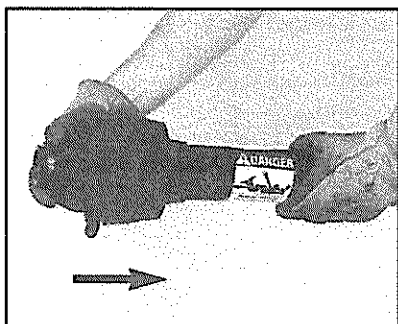

FIG. 8 - RETRACT RING FOR INSTALLATION
STEP 11: Make sure the tractor engine is shut off, then connect the driveline to the tractor PTO. The drive shaft locks on with a retractable retaining ring coupling device—slide the ring back for installation (see Fig. 8).